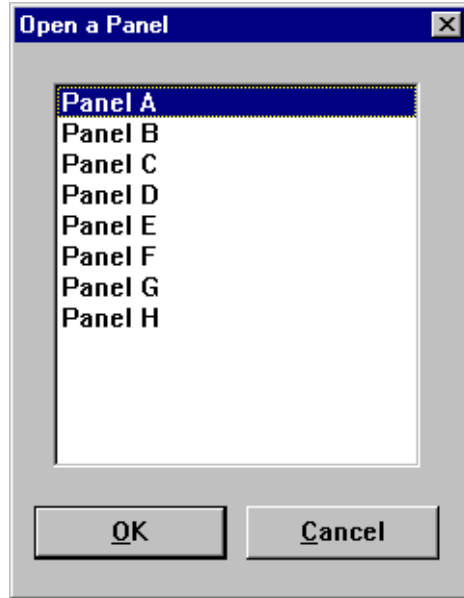

Figure 7. Open Panel dialog box
1. Choose **Window | Open Panel**. The Open a Panel dialog box appears (Figure 7).